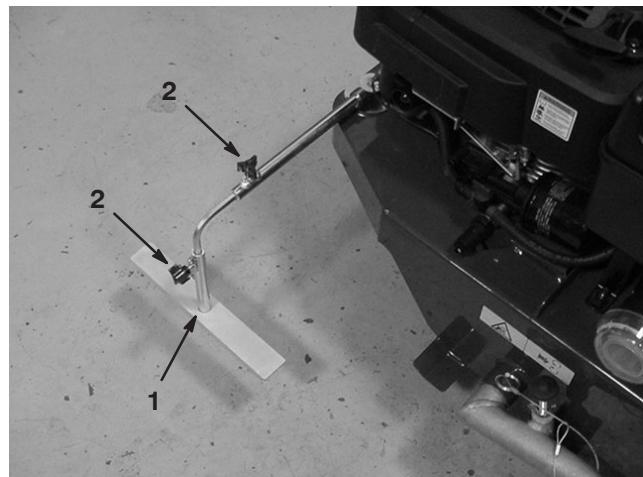

Figure 8
- Insert the line guide (Fig. 8) into the tube and tighten the adjusting knobs.